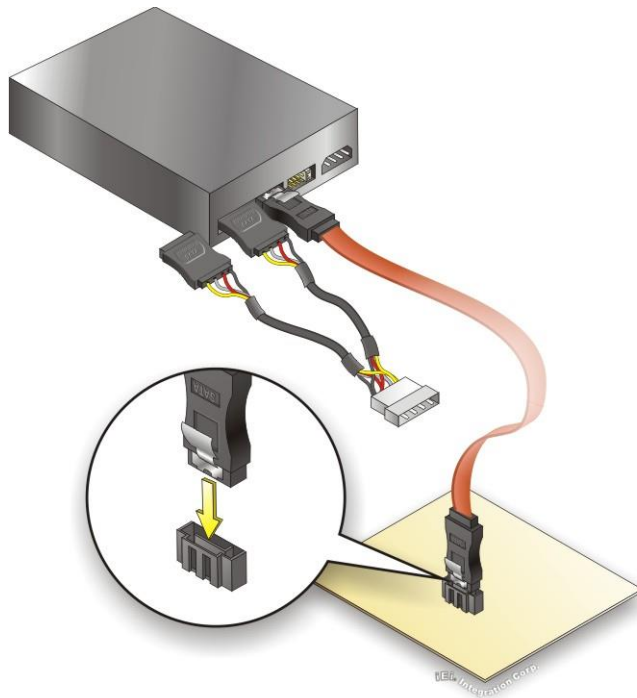

Figure 4-20: SATA Power Drive Connection
Step 3: Connect the cable to the SATA disk. Connect the connector on the other end of the cable to the connector at the back of the SATA drive. See Figure 4-20.
Step 4: Connect the SATA power cable. Connect the SATA power connector to the back of the SATA drive. See Figure 4-20.